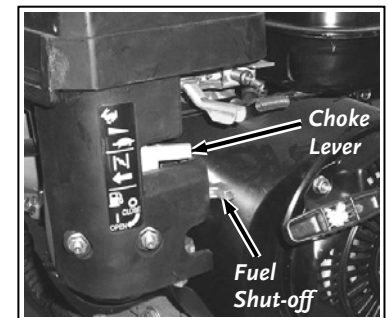

Figure 11
3. Make sure the Fuel Shut-off is in the “OPEN” position (**Figure 11**).
1. Make sure the Fuel Shut-off is in the “OPEN” position (**Figure 11**).